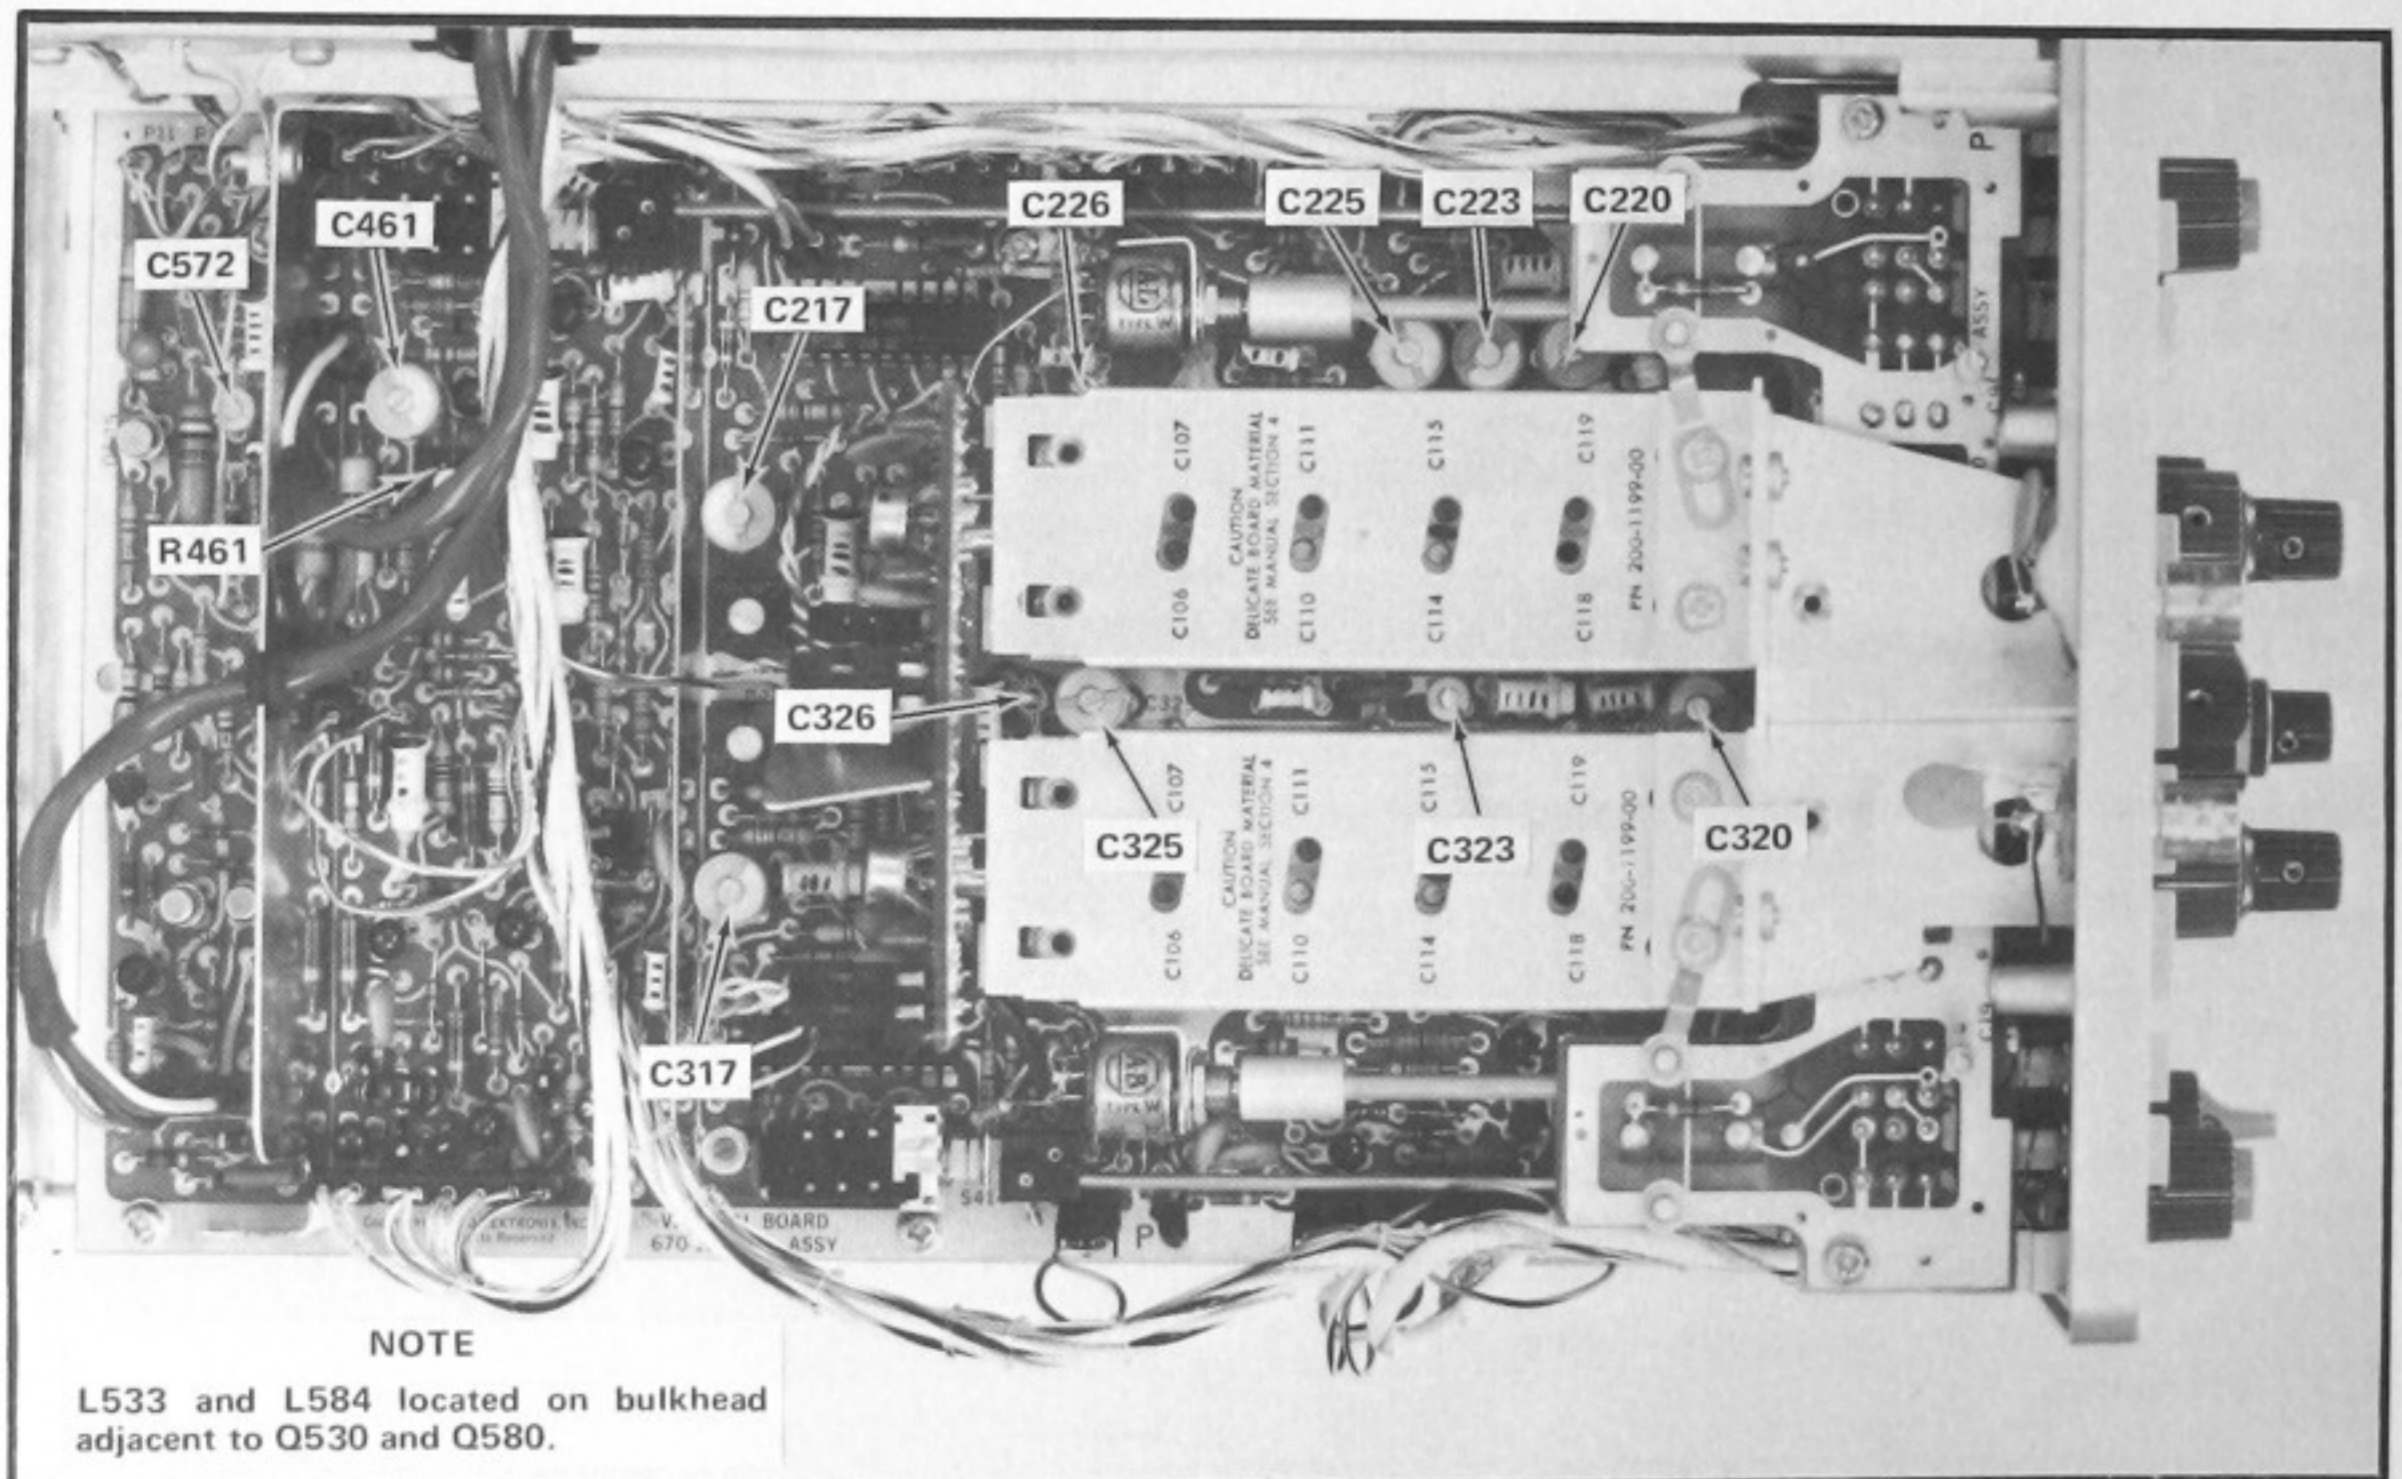

Fig. 5-8. Location of vertical system high-frequency compensation adjustments.
m. ADJUST—C317 and C326 (see Fig. 5-8) for optimum risetime with aberrations typically less than +4%, -4%, or a total of 4% peak to peak within the +20°C to +30°C temperature range.
ac. ADJUST—Refer to Table 5-3 for the correct adjustment and tolerances. See Fig. 5-8 for adjustment locations.